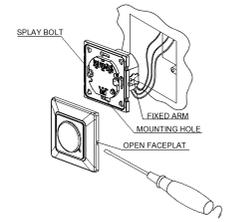

Fig 3
- The Square Sensor permits installation in circular and square holes. Round holes put it in and splay bolt on both sides for square holes, put it on the hole and fix the screws through the mounting hole (figure 3).